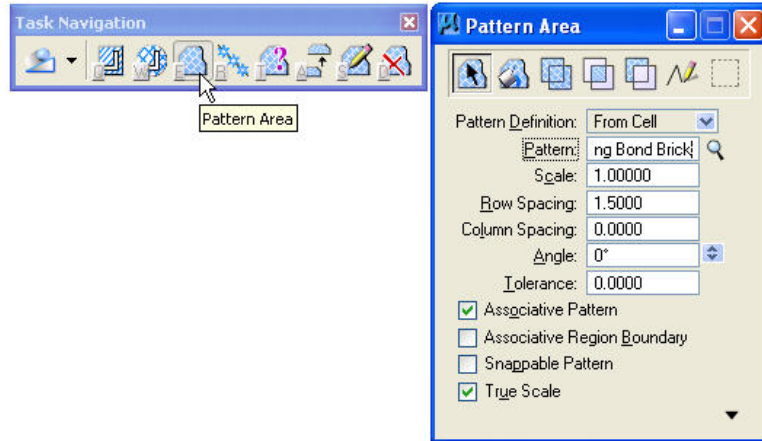

Figure P12-10 Pattern Area tool settings
STEP 2: Invoke the Pattern Area tool from the Task Navigator (active task set to Patterns) and in the tool settings box, adjust the tool settings as shown in Figure P12-10.